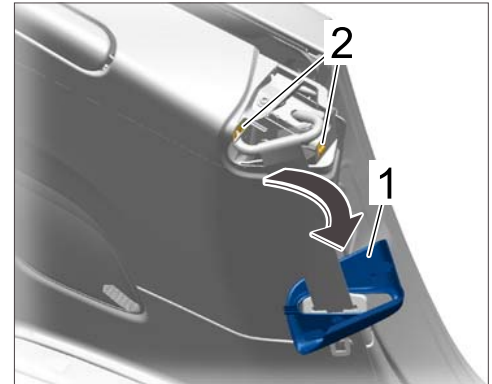

Figure 4
- 4.2 Unclip cover of three-point seat belt ⇒ *Figure 4-1-* by pulling it forward out of the clips ⇒ *Figure 4-2-* (⇒ *Figure 4-arrow-*).